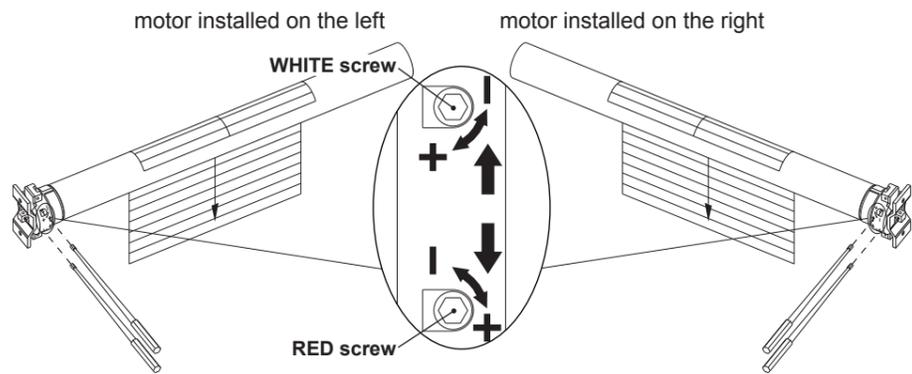

Fig. 3
3.1 Use with roller shutters (Fig.3)